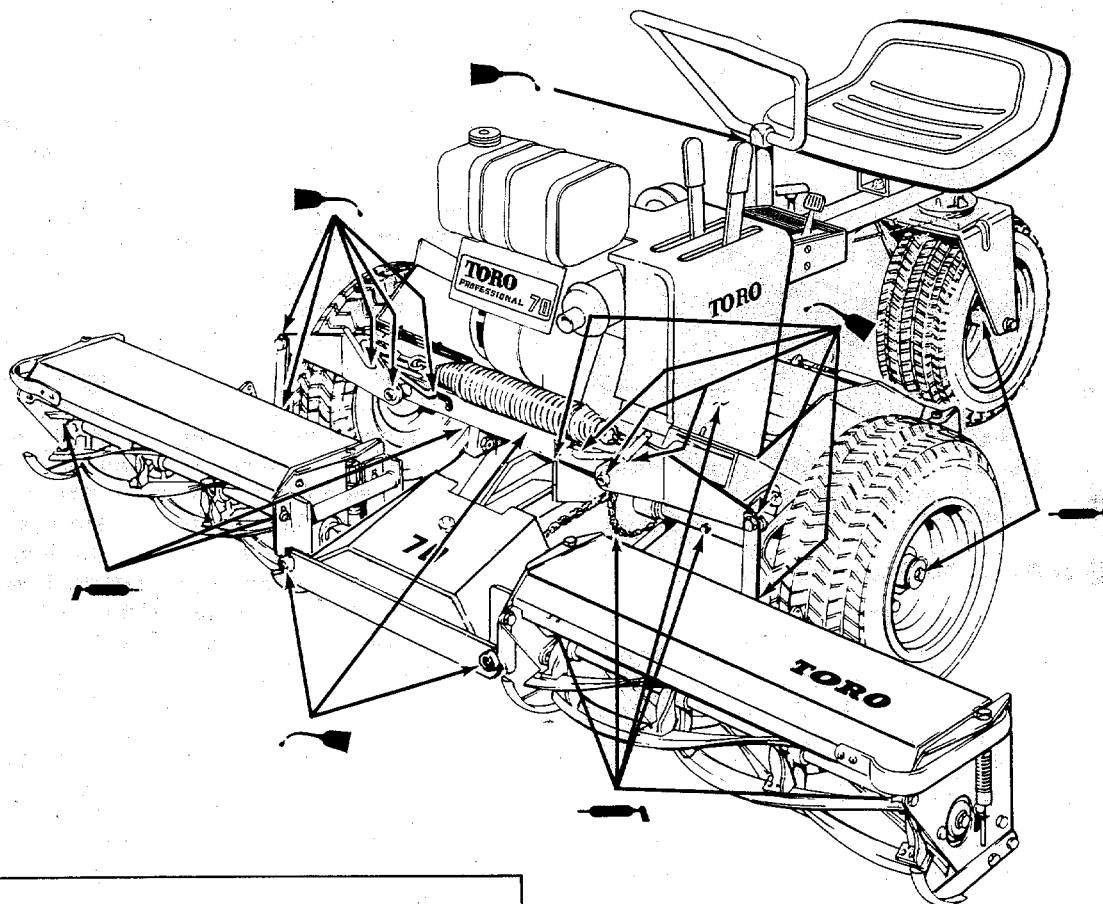

Figure 22
1. Grease fitting — use good grade of gun grease every eight hours of operation. There are 13 grease fittings in all (Fig. 22). Two fittings on rear cutting unit are not shown but are in the same position as those on front cutting units.